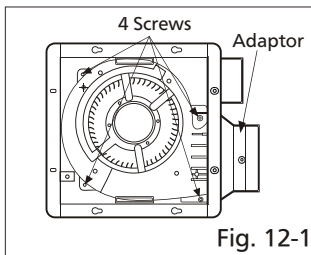

Fig. 12-1
- Loosen 4 screws (but do not remove them from blower). (Fig.12-1)